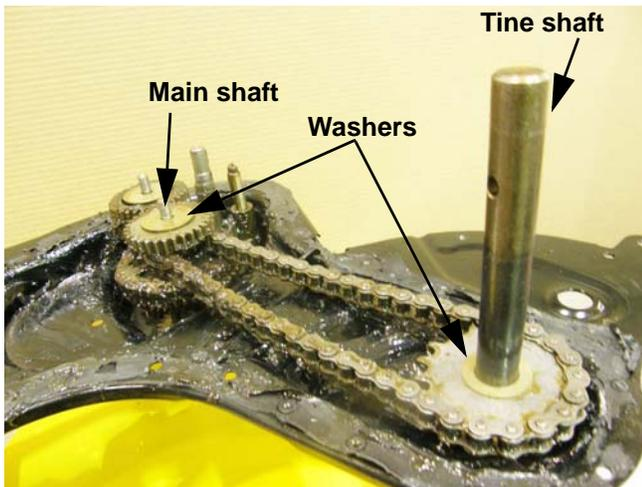

Figure 5.30
1. There is a washer between the sprocket and the upper half of the chain case housing. It may be on the tine shaft, or it may have come off with the upper housing. Confirm its location and remove it. See Figure 5.30.